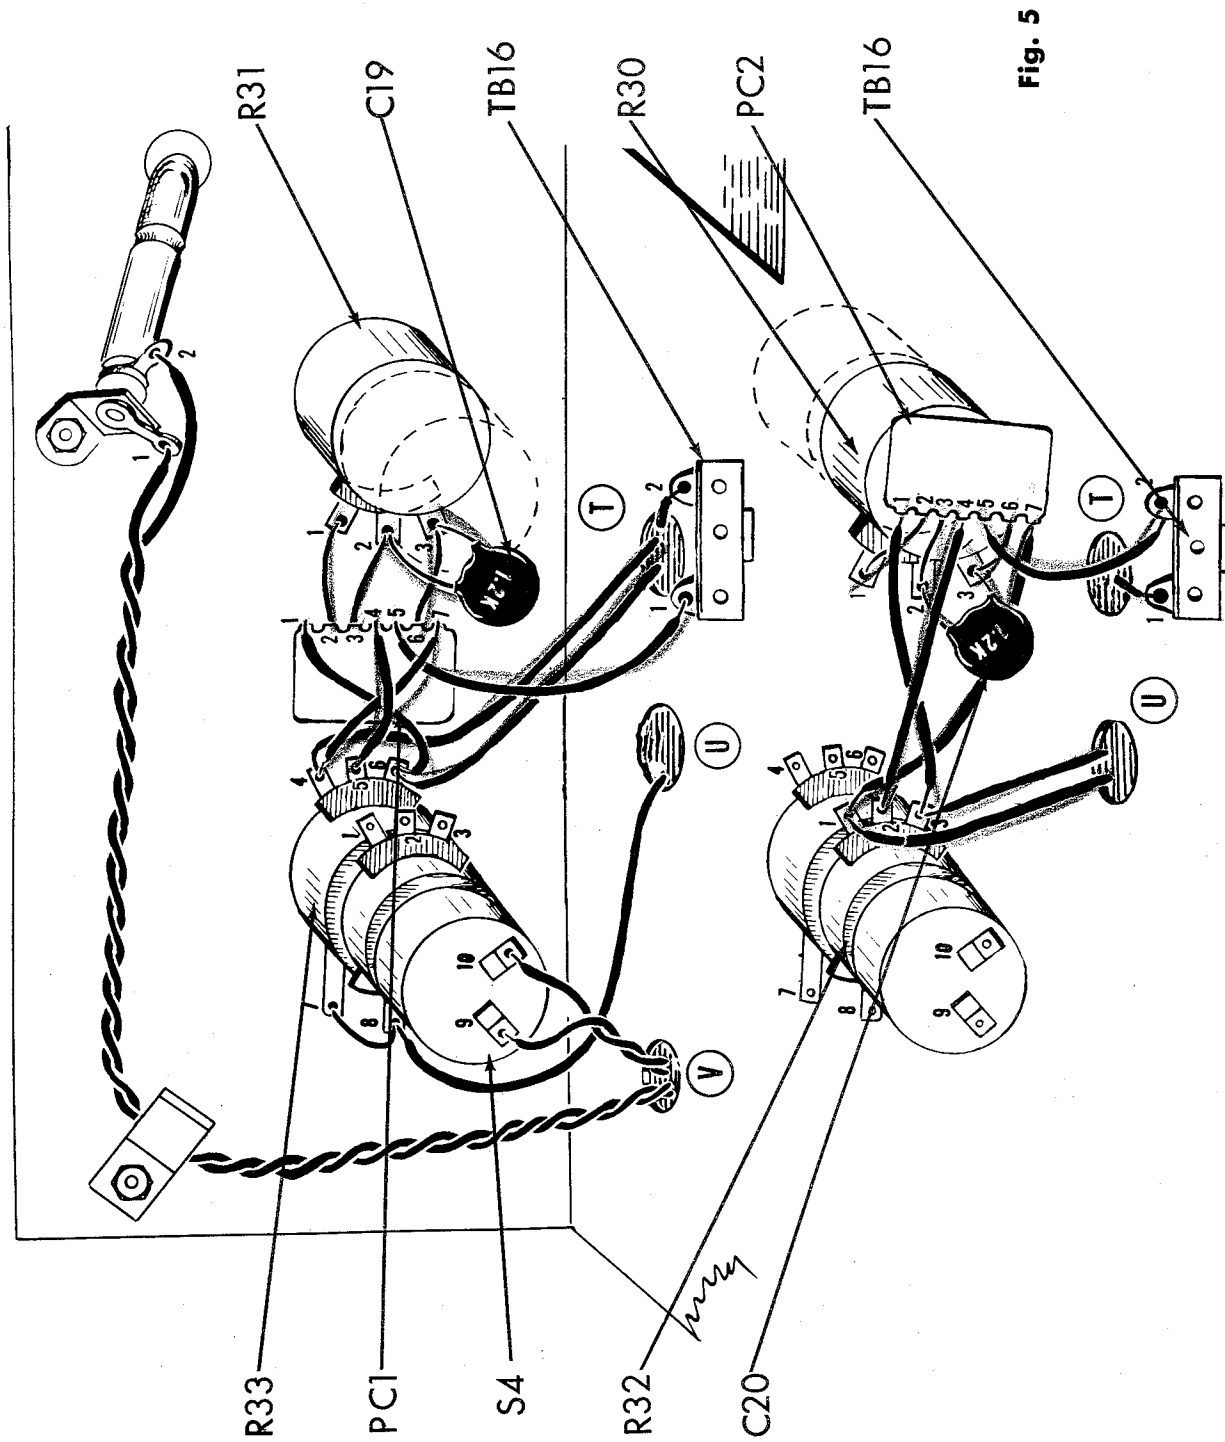

Fig. 5
1. (✓) Fig. 5. Strip the outer insulation back 1/2" on one end of a 8" piece of single conductor shielded cable. Twist the shield strands together and cut off. Strip the inner insulation back 1/4". Connect this end to R33-4 (C). On the other end of the same piece of cable, strip the outer insulation back 3/4". Twist the shield strands together. Strip the inner insulation back 1/4". Push this end of the cable through hole "T" to the bottom of the chassis.
2. (✓) Fig. 5. Connect one end of a 7" piece of brown wire to R33-6 (C). Push the other end through hole "T".
3. (✓) Fig. 5. On the printed circuit plate, PC1, cut leads #2, #3 and #6 to 1/2". Cut leads #1, #5 and #7 to 2". Cut lead #4 to 1 1/2". Connect lead #6 to R31-3 (C), lead #3 to R31-2 (C) and lead #2 to R31-1 (S1). Cover leads #1 and #7 each with a 1 3/4" piece of spaghetti. Connect lead #1 to R33-6 (S2) and lead #7 to R33-4 (S2). Cover lead #4 with a 1 1/4" piece of spaghetti and connect to R33-5 (S1). Cover lead #5 with a 1 3/4" piece of spaghetti and connect to TB16-1 (C).
4. (✓) Fig. 5. Cut both leads on a .0012 mfd (1.2K or 1200 mmf) disc capacitor, C19, to 1/2". Connect from R31-2 (S2) to R31-3 (S2).
5. (✓) Fig. 5. Connect one end of a 5 1/2" piece of green wire to TB16-2 (C) Push the other end through hole "T" to the bottom of the chassis.
6. (✓) Fig. 5. Connect one end of a 10" piece of grey wire to the switch S4-9 (S1) which is mounted on the rear of the dual treble control potentiometers. Connect one end of a 14" piece of black wire to S4-10 (S1). Twist the two leads together and push the unsoldered end through hole "V" to the bottom of the chassis.
7. (✓) Fig. 5. Cut the leads #2, #3 and #6 on printed circuit plate PC2, to 1/2". On the same printed circuit plate PC2, cut leads #1 and #7 to 2 1/4", lead #5 to 1 1/4" and lead #4 to 1 3/4". Connect lead #6 to R30-3 (C), lead #3 to R30-2 (C) and lead #2 to R30-1 (S1). Cover leads #1 and #7 each with a 2" piece of spaghetti. Connect lead #7 to R32-1 (C) and lead #1 to R32-3 (C). Cover lead #4 with a 1 1/2" piece of spaghetti and connect to R32-2 (S1). Cover lead #5 with a 1" piece of spaghetti and connect to TB16-2 (S2).
8. (✓) Fig. 5. Cut both leads on a .0012 mfd (1.2K or 1200 mmf) disc capacitor, C20, to 1/2". Connect from R30-3 (S2) to R30-2 (S2).
9. (✓) Fig. 5. Connect one end of an 8" piece of grey wire to TB16-1 (S2). Push the other end through hole "T" to the bottom of the chassis.
10. (✓) Fig. 5. Connect one end of a 4" piece of yellow wire to R32-3 (S2). Push the other end through hole "U" to the bottom of the chassis.
11. (✓) Fig. 5. Strip the outer insulation back 1/2" on one end of a 5" piece of single conductor shielded cable. Twist the shield strands together and cut off. Strip the inner insulation back 1/4". Connect this end to R32-1 (S2). On the other end of the same piece of cable, strip the outer insulation back 3/4". Twist the shield strands together. Strip the inner insulation back 1/4". Push this end of the cable through hole "U" to the bottom of the chassis.